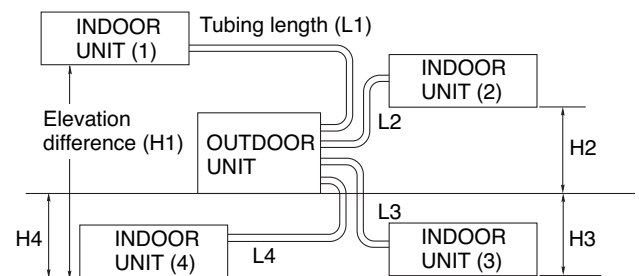

Fig. 2
- install the unit within the maximum elevation difference (H1, H2, H3, H4) above or below the outdoor unit and within a total tubing length ($L1+L2+L3$, $L1+L2+L3+L4$) from the outdoor unit as detailed in Table 3 and Fig. 2.